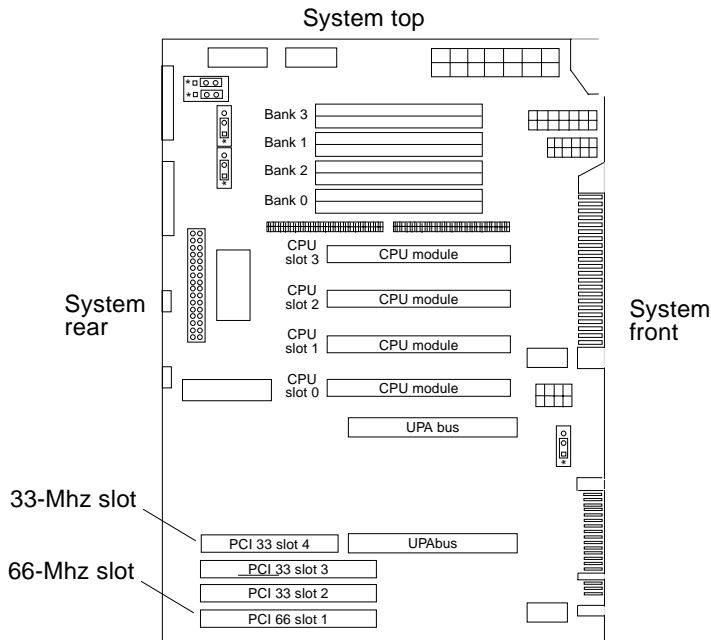

FIGURE 2-3 Ultra 80 PCI 66-Mhz and 33-Mhz Connector Locations
3. Locate the Ultra 80 PCI 66-Mhz and 33-Mhz connectors (FIGURE 2-3).